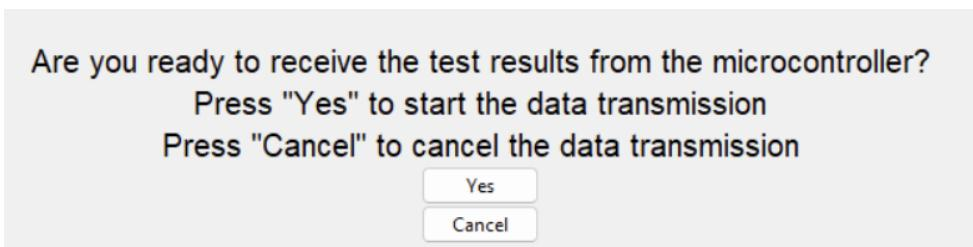

Figure 3.18 - Confirm Data Transfer Screen (TS)
- 2: The screen in figure 3.18 will be displayed asking if the user is ready to receive the test results from the microcontroller. Click “Yes” to proceed with the data transfer or “Cancel” to return to the main menu (TS).